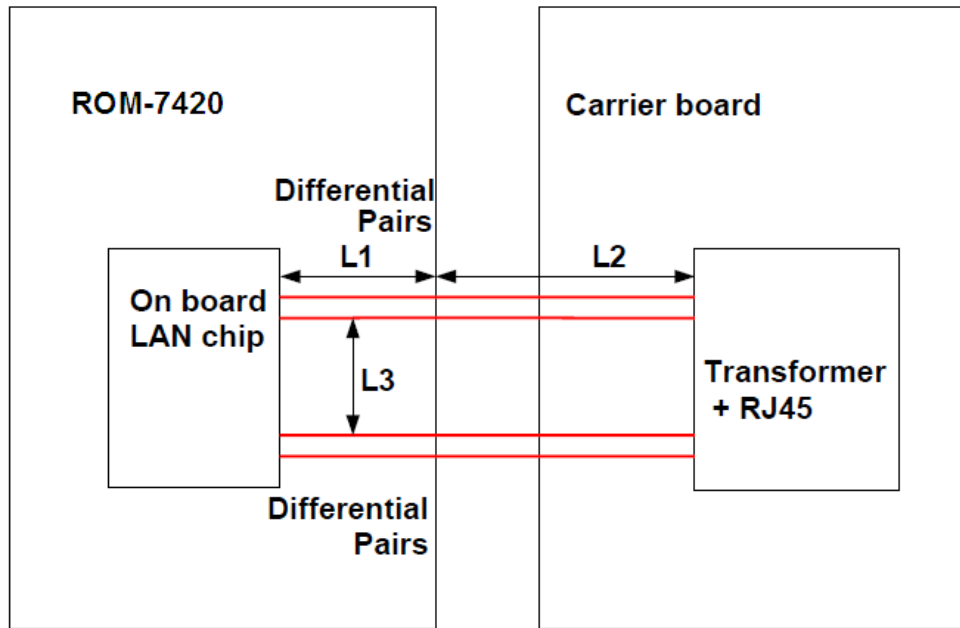

Figure 3-4 Differential signals route example
- The total length of each differential pair should be less than 6.8 inches. Keep the length of each differential pair under 6.8 inches. Figure 3-4 shows an example. Please refer to the Advantech layout checklist for detailed length matching.
- Do not route the transmit differential traces closer than 50 mils to the receive differential traces for 10/100 Mbps. Figure 3-4 shows an example. It's recommended to keep length L3 longer than 50 mils.
- Do not route any other signal traces (including other differential pairs) parallel to the differential traces or closer than 20 mils. Figure 3-4 shows an example. It's recommended to keep length L3 longer than 50 mils to the differential traces.